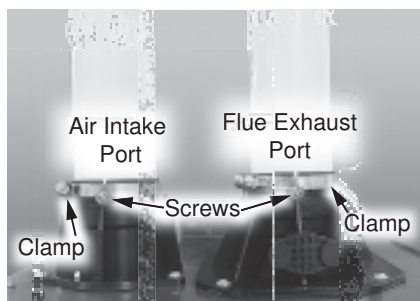

Figure 63 - Flue exhaust port and intake air port location
2 Locate the flue exhaust port and intake air port. See Figure 63.
3 Remove the two (2) screws securing the intake air and exhaust piping to the ports. Place the screws aside in a safe place for reinstallation. See Figure 63.
9 Reinstall the two (2) screws removed in **Step 3**. See Figure 63.